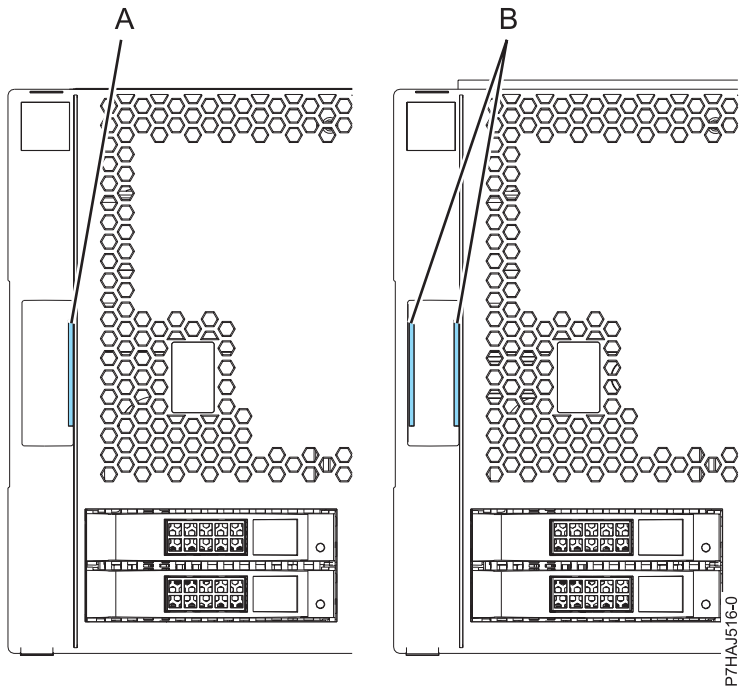

Figure 5. Identifying the older and newer covers
**Note:** The older covers that were shipped before 1 March 2011 can be identified by a single blue stripe **(A)** on the cover assembly latches. Newer covers that were shipped after 1 March 2011 have two blue stripes **(B)** on the cover assembly latches. See Figure 5 on page 21.